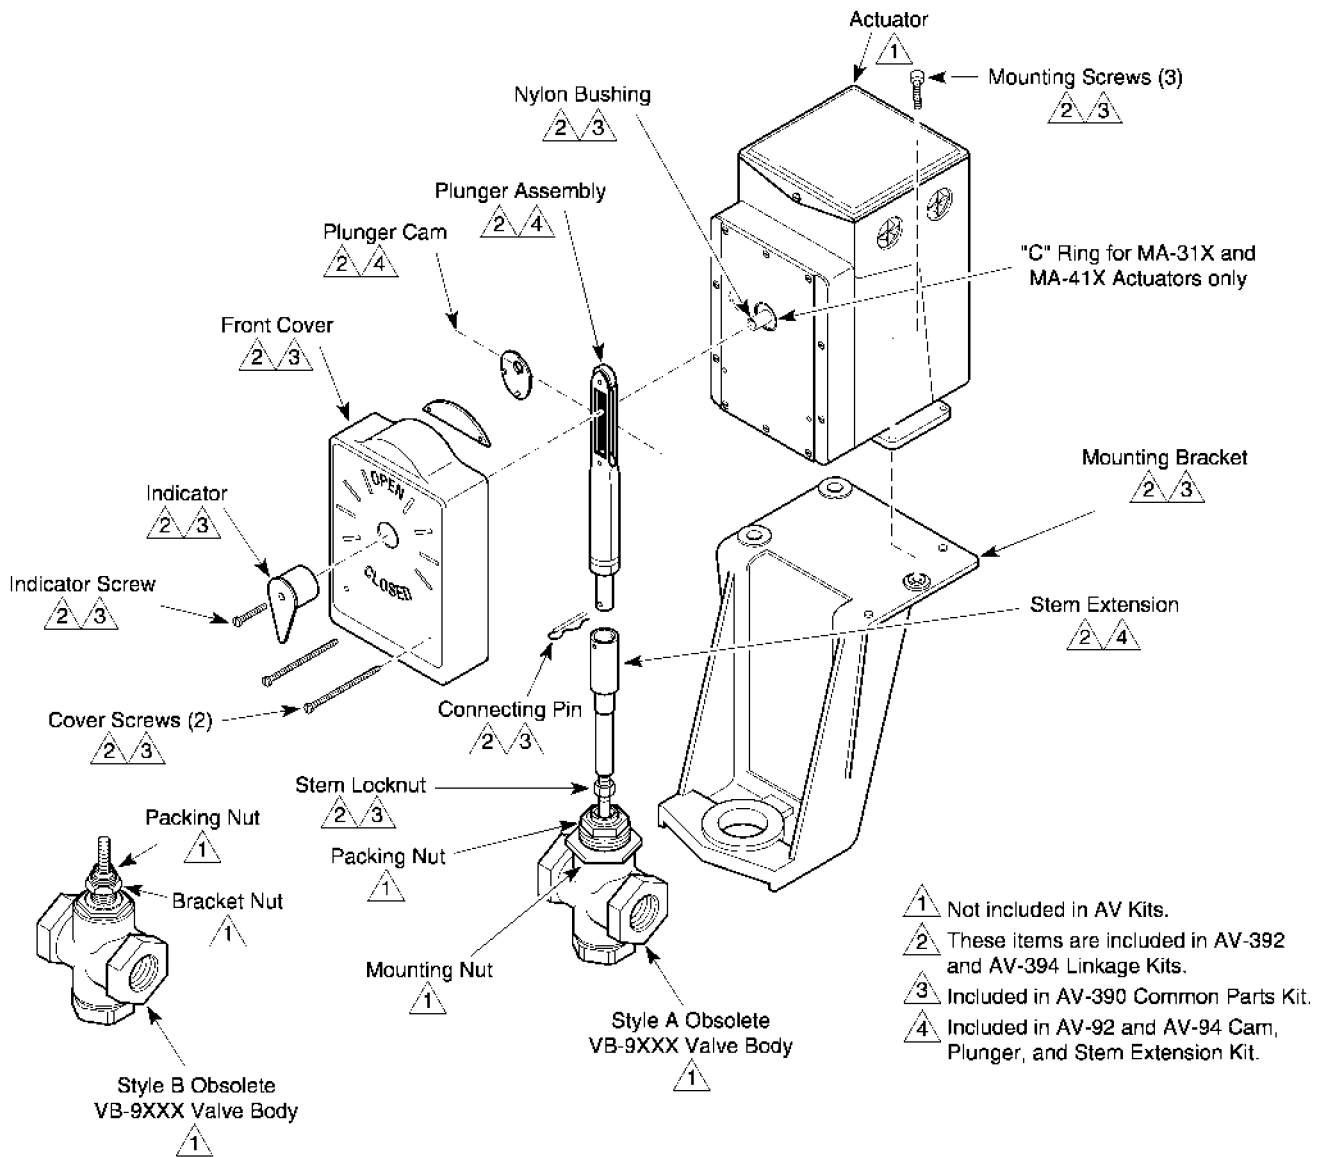

Figure-2 Valve Linkages for Obsolete 1-1/2" to 2" VB-9XXX Valve Bodies.
- b. For Style B VB-9XXX valve bodies, mount the bracket onto the valve body by removing the bracket nut, placing the bracket on the valve body, and replacing and tightening the valve bracket nut. See Figure-2.